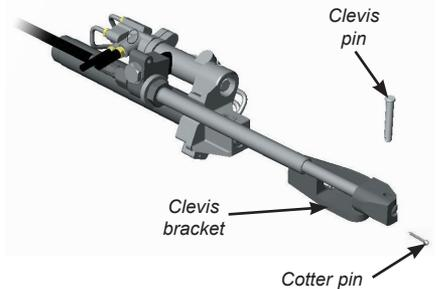

Fig B25 - Steering cylinder in mid stroke position
- i) Use manual helm to set the steering cylinder to the mid stroke position as shown in Fig B25 (it may be necessary to run the engine to do this).